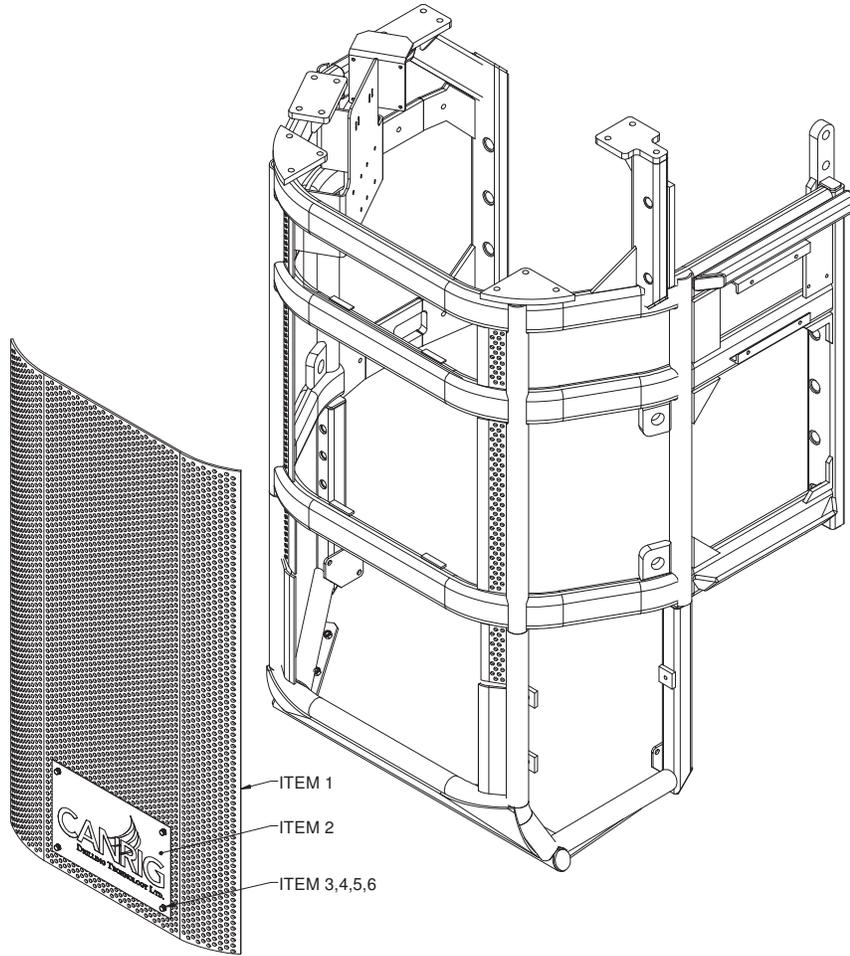

Figure 4: Top Drive Guard Cover Kit
- Place perforated guard cover (item 1 on Table 1) onto surface of existing cage. Make sure bottom of perforated plate (determined by the nameplate mounting hole location) is flush with the pipe at the bottom of the cage to ensure proper fit. See Figure 4.